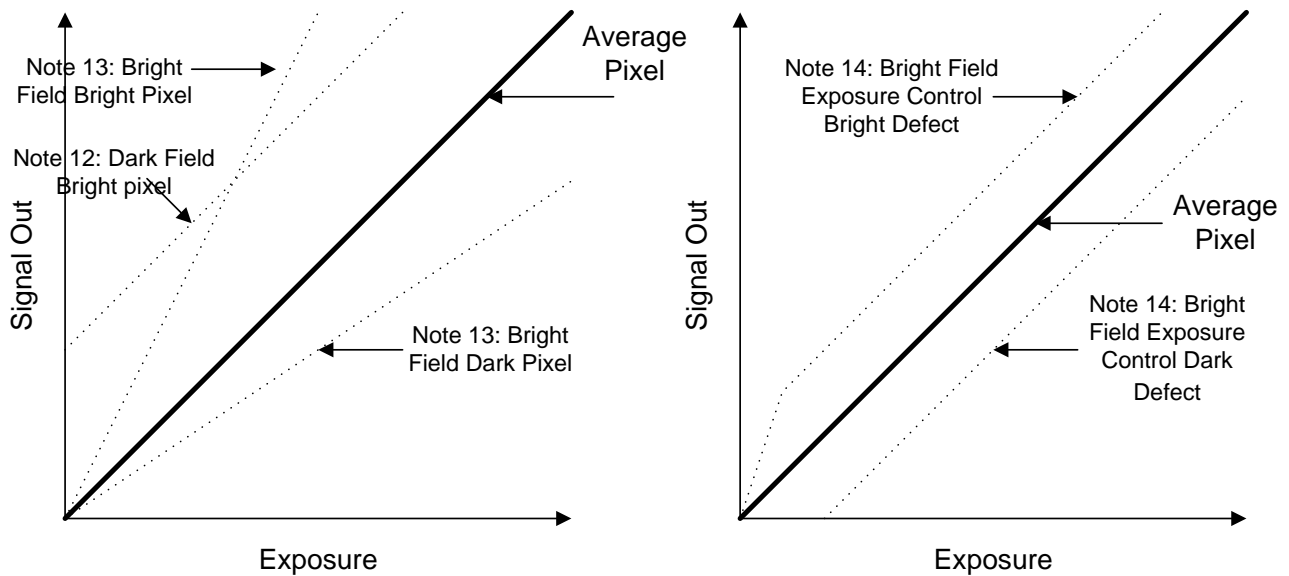

Figure 3: Illustration of Defect Classifications
Specifications given under nominally specified operating conditions for the given mode of operation at 25 °C,  $f_{CLK} = 1$  MHz, AR coverglass, color filters, and an active load as shown in Figure 3 unless otherwise specified. See notes on next page for further descriptions.
- Pixels whose response is greater than the average response by the specified threshold, (16 mV). See Figure 3.
- Pixels whose response is greater or less than the average response by the specified threshold, ( $\pm 10\%$ ). See Figure 3.
- Pixels whose response deviates from the average pixel response by the specified threshold, (4 mV), when operating in exposure control mode. See Figure 3. If dark pattern correction is used with exposure control, the dark pattern acquisition should be completed with exposure control actuated. Dark current tends to suppress the magnitude of these defects as observed in typical applications, hence line rate changes may affect perceived defect magnitude. Note: Zero defects allowed for those pixels whose response deviates from the average pixel response by a 20 mV threshold.